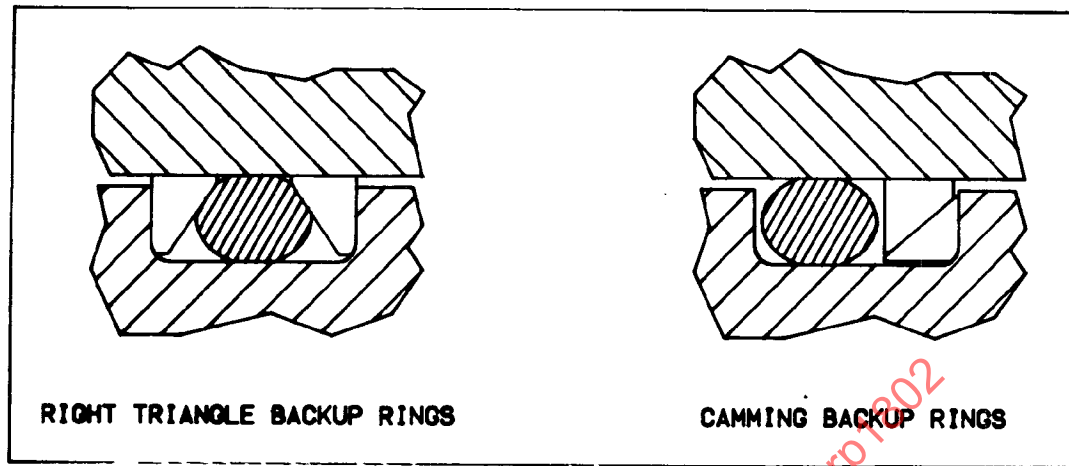

FIGURE 6
- 5.2 Special Types: In addition to the three basic types of backup rings, right triangle backup rings and camming backup rings are available for special purpose applications (Figure 6).